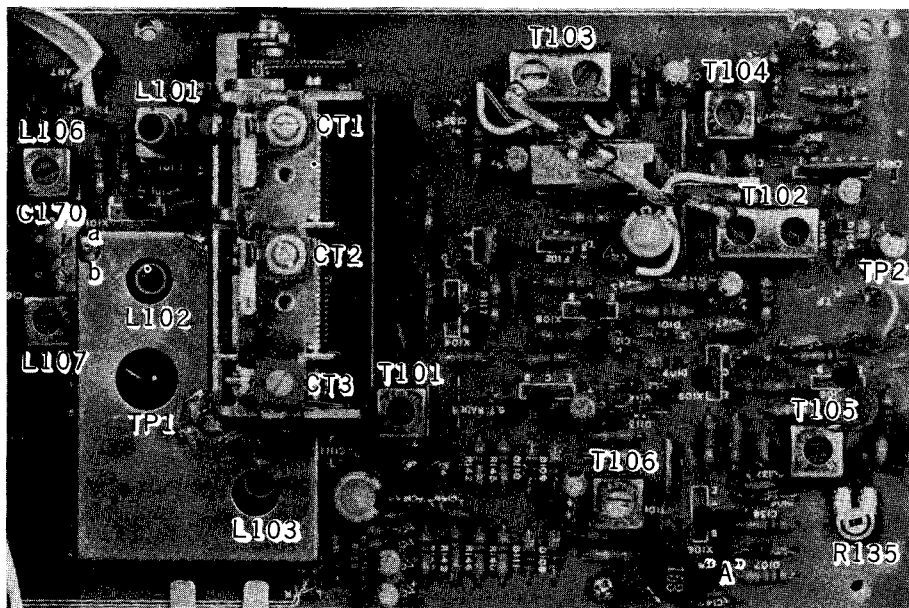

Fig. 23
- Connect IF/VF signal of TV sweep generator to the test point TP1. (Fig. 23)
- Connect V.INPUT of oscilloscope with TP2 and chassis. (Fig. 23)
FM MPX Alignment (Refer to Fig. 23)